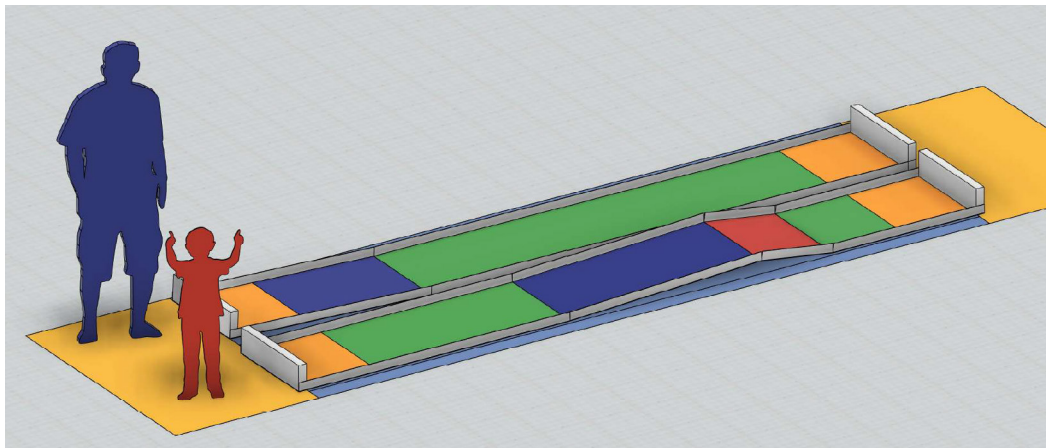

Figure 1. The Rig
The Tech will provide the rig for test trials and Showcase. Each rig has two tracks with start gates at each end. See Figure 1, Figure 2 and Figure 3 below. Complete rig drawings can be found on our website.
2. The goal for each team is to complete four runs consisting of traveling down and back on both tracks. Figures 1 and 2 have arrows showing the direction of each run.